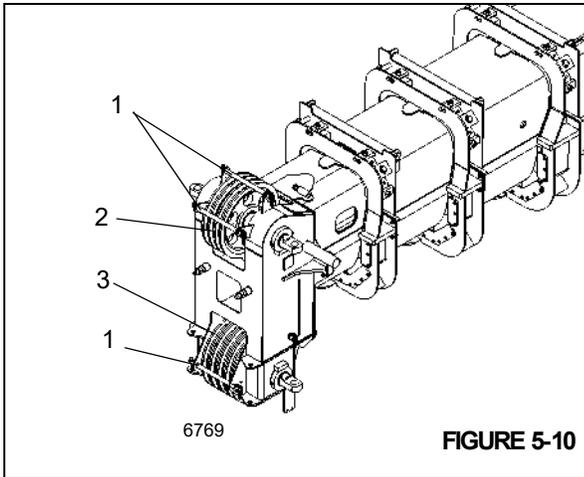

FIGURE 5-10
1. Remove the retaining rods (1), (Figure 5-10).
2. Guide the rope over the upper boom nose sheaves (2), (Figure 5-10).
3. Guide the rope over the lower boom nose sheave (3), (Figure 5-10).
3. Take the wire rope off the upper boom nose sheave (2), (Figure 5-10) and place it on the ground on the left side.